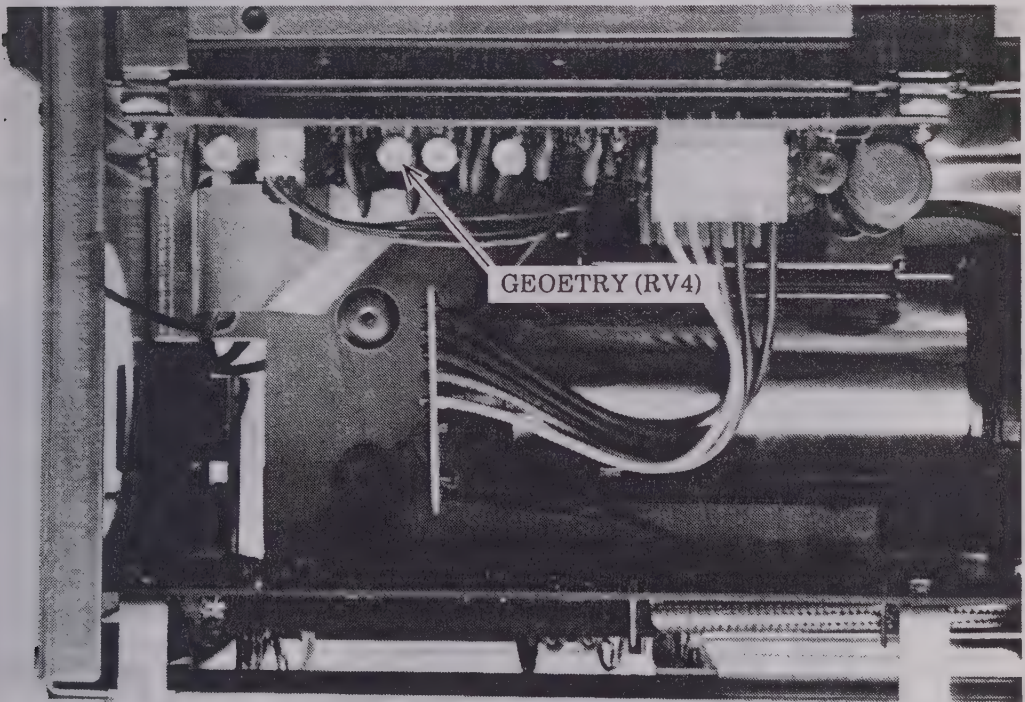

Fig. 4-10 Adjustment position of GEOMETARY (RV4)
- (1) Apply a 50kHz, 8DIV amplitude signal to CH1 input from signal generator.
- (2) Confirm that the waveform on the CRT is not distorted. If it is distorted, adjust GEOMETRY (RV4) on board A6 indicated in Fig. 4-10.